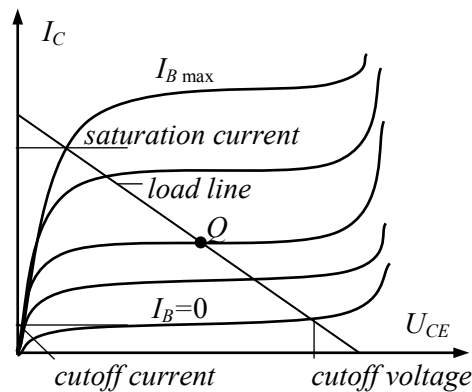

Fig. 1.25
Fig. 1.25 illustrates the set of collector characteristic curves under the different values of  $I_B$ . The bottom curve when there is no base current limits a *cutoff region* of the transistor where resistance is high, and the small collector current is called a *collector cutoff current*. As usual, a designer never allows voltage to get close to the maximum breakdown voltage  $U_{CE}$ , which is given in the data sheets for the transistor with an open base ( $I_B = 0$ ).
A safety factor of two is common to keep  $U_{CE}$  well below the rating value. In digital circuits, the transistor may operate in the cutoff region. The upper curve in Fig. 1.25 limits the maximum collector rating. At this maximum, the transistor is in saturation and there is no sense to raise the base current more than  $I_{B \max}$ .
**Load line.** A line in Fig. 1.25 drawn over the collector curves to show every possible operating point of a transistor is called a *load line*. Every transistor circuit has a load line. The top end of the load line is called *saturation*, and the bottom end is called *cutoff*. The first expresses the maximum possible collector current for the circuit, and the last gives the maximum possible collector-emitter voltage. The key step in finding the saturation current is to visualize a short circuit between the collector and the emitter. The key step to finding the cutoff voltage is to visualize an open between the collector and emitter.